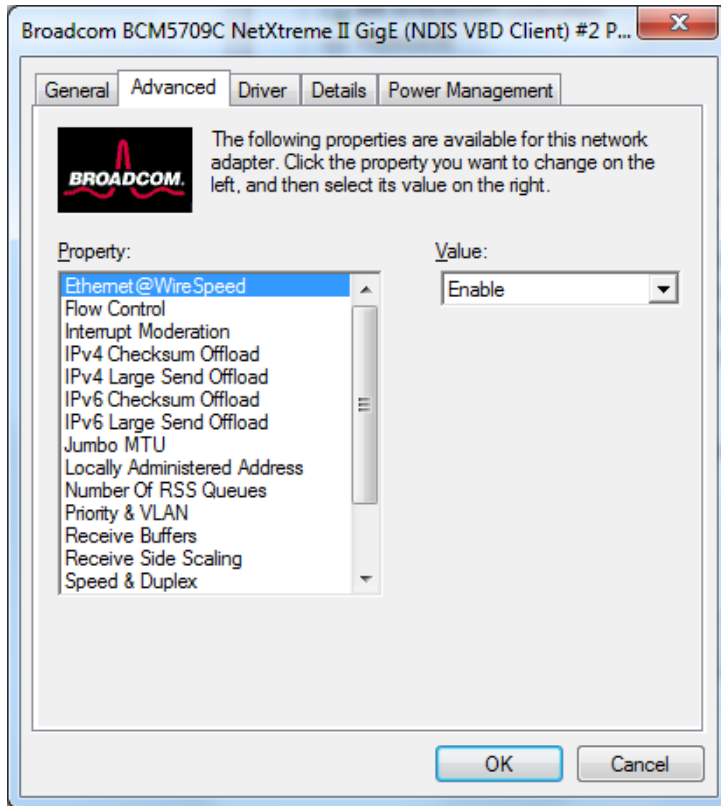

Figure 22. Advanced Tab
7. In the Broadcom network adapter window, click the **Advanced** tab, shown in Figure 22.
The Advanced tab is shown in Figure 22 on page 109.